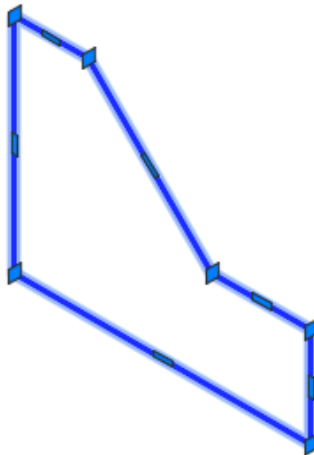

Figure Step 6
Step 6 Using the JOIN command, create a closed polyline. (Figure Step 6)